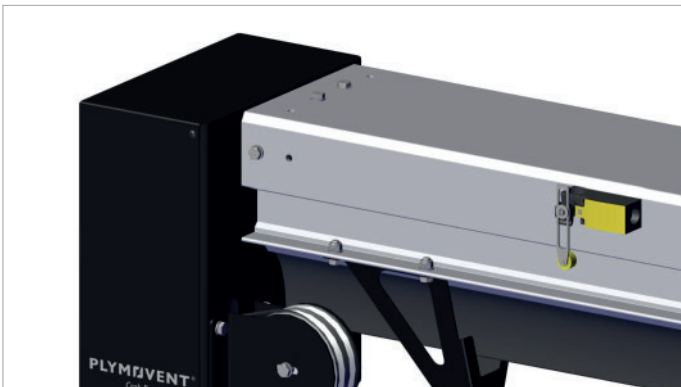

Fig. 6.3.8 Mounting the CRS Auto Return Switch
- Mount the CRS Auto Return Switch directly on the rail using self-tapping screws $\frac{1}{4} \times 1$ in. (6.3 x 25 mm). Refer to fig. 6.3.8 for the position of the CRS Auto Return Switch.